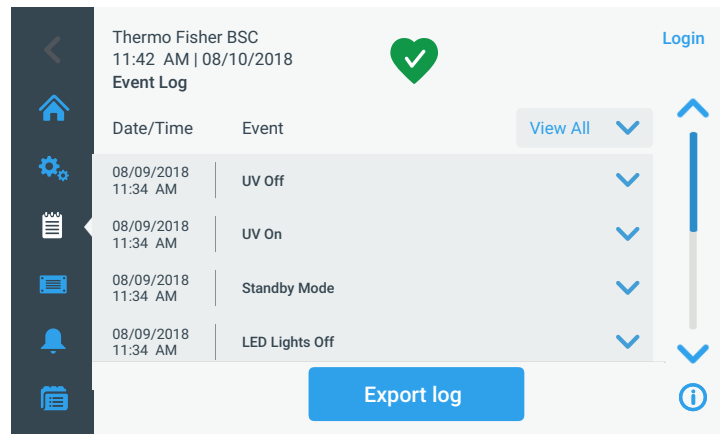

Figure 92 “Event Log” Screen: Standby Mode expanded
The “Event Log” screen shown in Figure 92 appears.
3. Tap on any list item in the event log to expand it and view more detailed information, as shown for the Standby mode item in Figure 92.